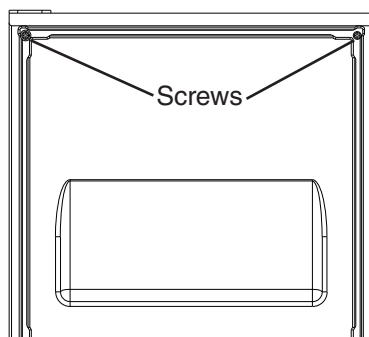

**Fig. 9**
- 7) Remove the bushings from hinge (C1) and hinge (C2) (the hinges attached to the door). See Fig. 9.